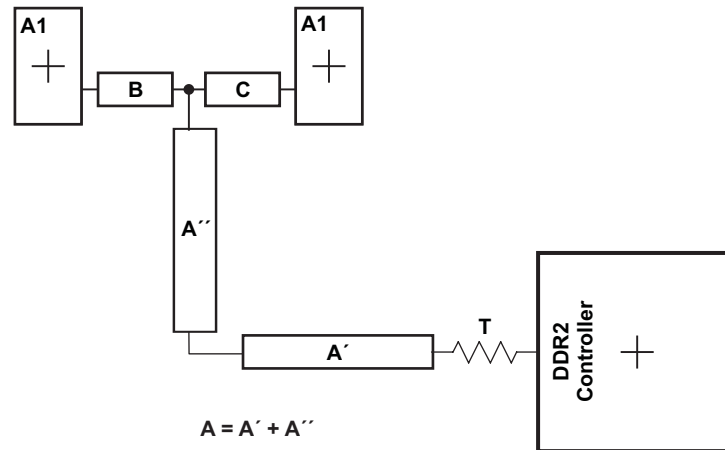

Figure 8-53. CK and ADDR_CTRL Routing and Topology
Figure 8-53 shows the topology of the routing for the CK and ADDR_CTRL net classes. The route is a balanced T as it is intended that the length of segments B and C be equal. In addition, the length of A ($A' + A''$) should be maximized.
- (1) The length of segment A = A' + A'' as shown in Figure 8-53.
- (2) Series terminator, if used, should be located closest to the device.
- (3) Center-to-center spacing is allowed to fall to minimum (2w) for up to 500 mils of routed length to accommodate BGA escape and routing congestion.
- (4) CACLM is the longest Manhattan distance of the CK and ADDR_CTRL net classes.